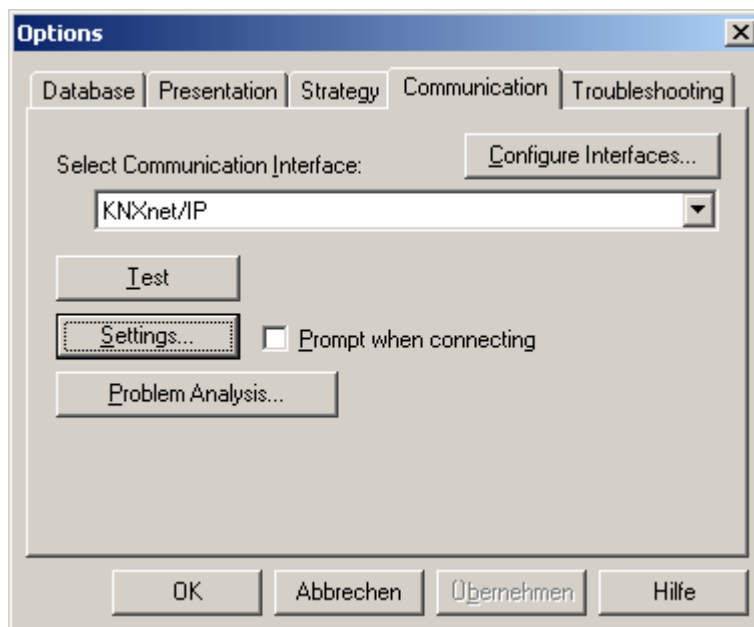

Fig. 9: Selecting the KNXnet/IP as communication interface and activating the settings
6. For stable communication via KNXnet/IP Tunneling, a second physical address (similar to the local physical address with an RS232 or a USB link) must be specified. To do so, select the new KNXnet/IP connection (cf. Fig. 9) in the options dialog of the communication tab and click on the "Settings" button.